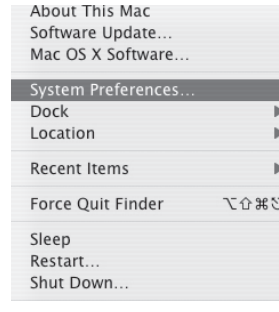

Figure 1
2. To select the UB1 as the computers audio input, open the System Preferences from the dock or the main Apple Menu (figure 1).